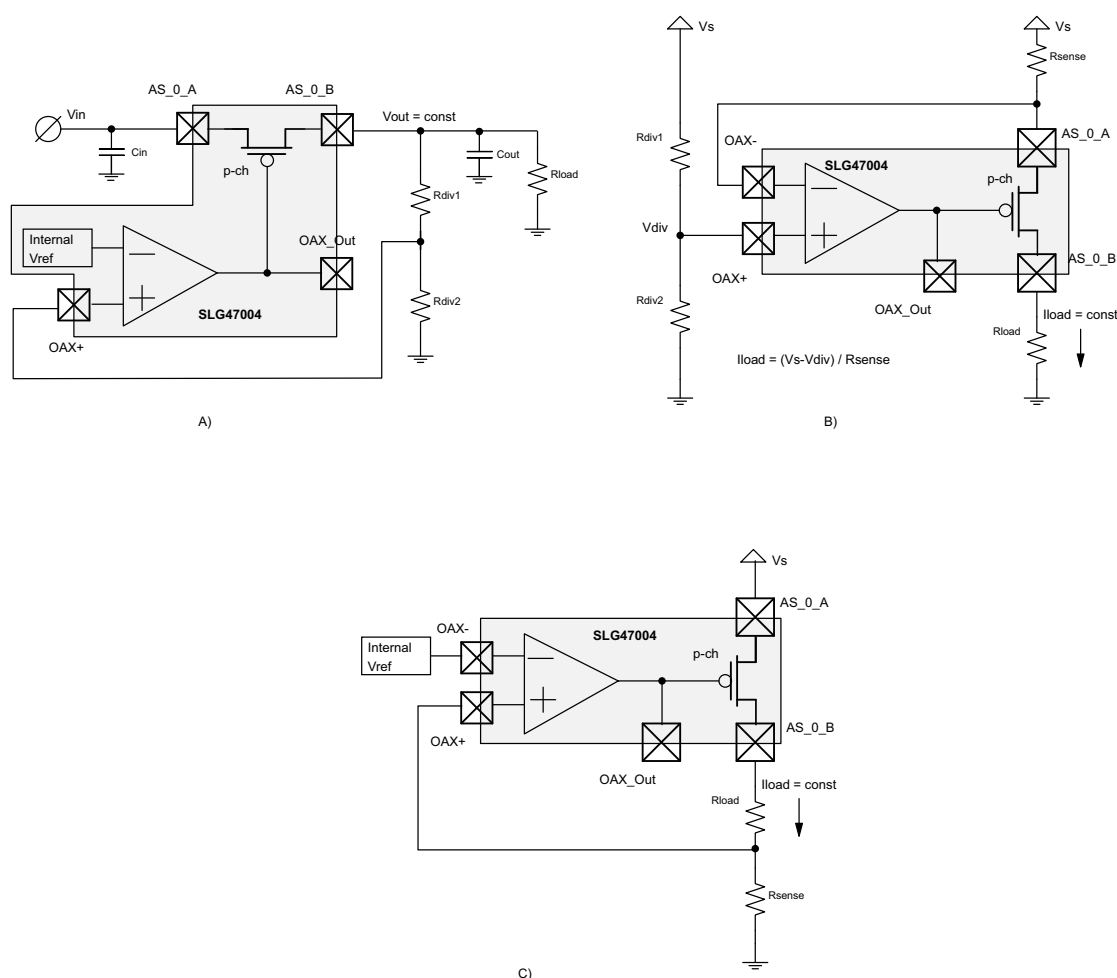

Figure 73. Typical Implementation of Voltage Regulator (A) and Current Sources (B, C)
In this mode, the Op Amp output drives P-FET (part of Analog Switch). Note that FETs of Analog Switches have different resistances. Analog Switch 0 has $R_{ds_PMOS} \ll R_{ds_NMOS}$, while Analog Switch 1 has $R_{ds_NMOS} \ll R_{ds_PMOS}$. That's why it is recommended to implement voltage regulator mode using Analog Switch 0. In this mode the Op Amp output is High when the macrocell is turned off. Figure 73 (A) shows the typical implementation of the voltage source function. Optionally, the user can use this mode to implement a constant current source with load connected to ground (Figure 73, B, C). Note that Op Amp must operate in operational amplifier mode (reg [750] = 0 for Op Amp0, reg [751] = 0 for Op Amp1).